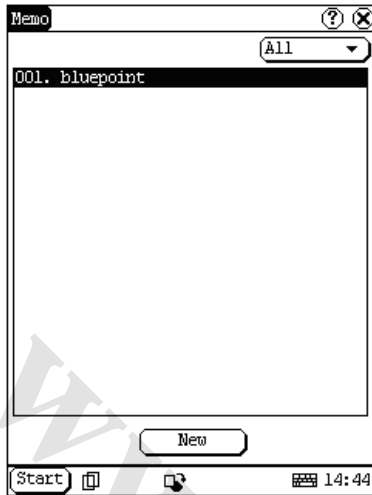

Figure 4-19
- 1) In the pop-up 'PIM' list, select 'Memo' to open the Memo interface. (See Figure 4-19)